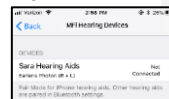

Figure 11
4. Once the hearing aids are discovered, your First Name + Hearing Aid and R+L\* will display (Figure 11).